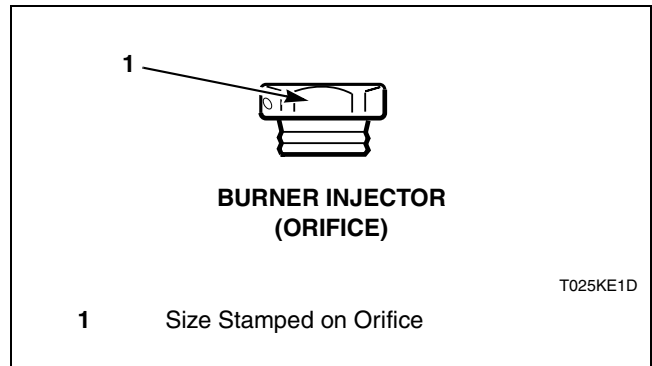

Figure 8
3. Install the new, correct injector(s) (orifices). Refer to *Figure 8*. Torque each to 9-10 Nm.